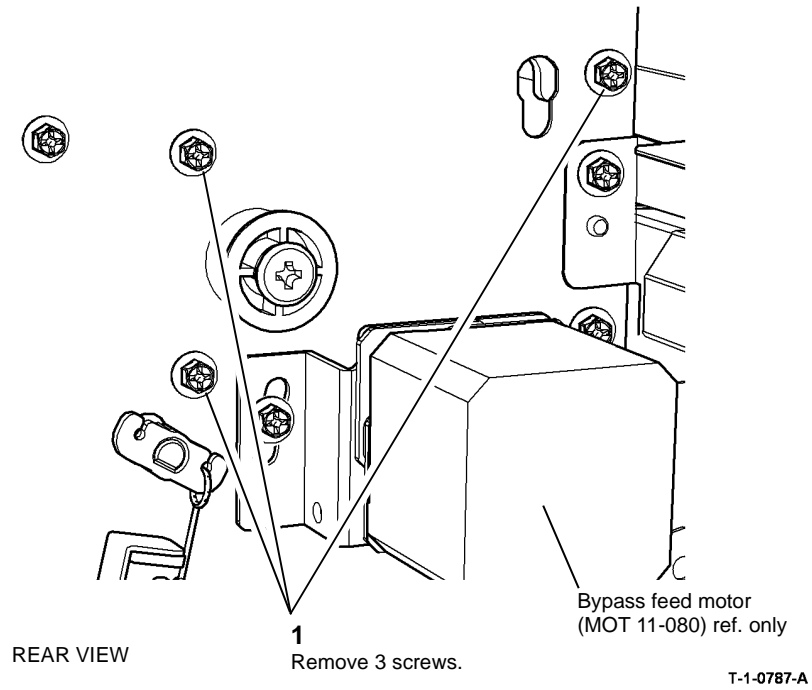

Figure 1 Rear screw removal
6. **Figure 1.** At the rear of the HVF, prepare to remove the buffer pocket jam clearance guide.